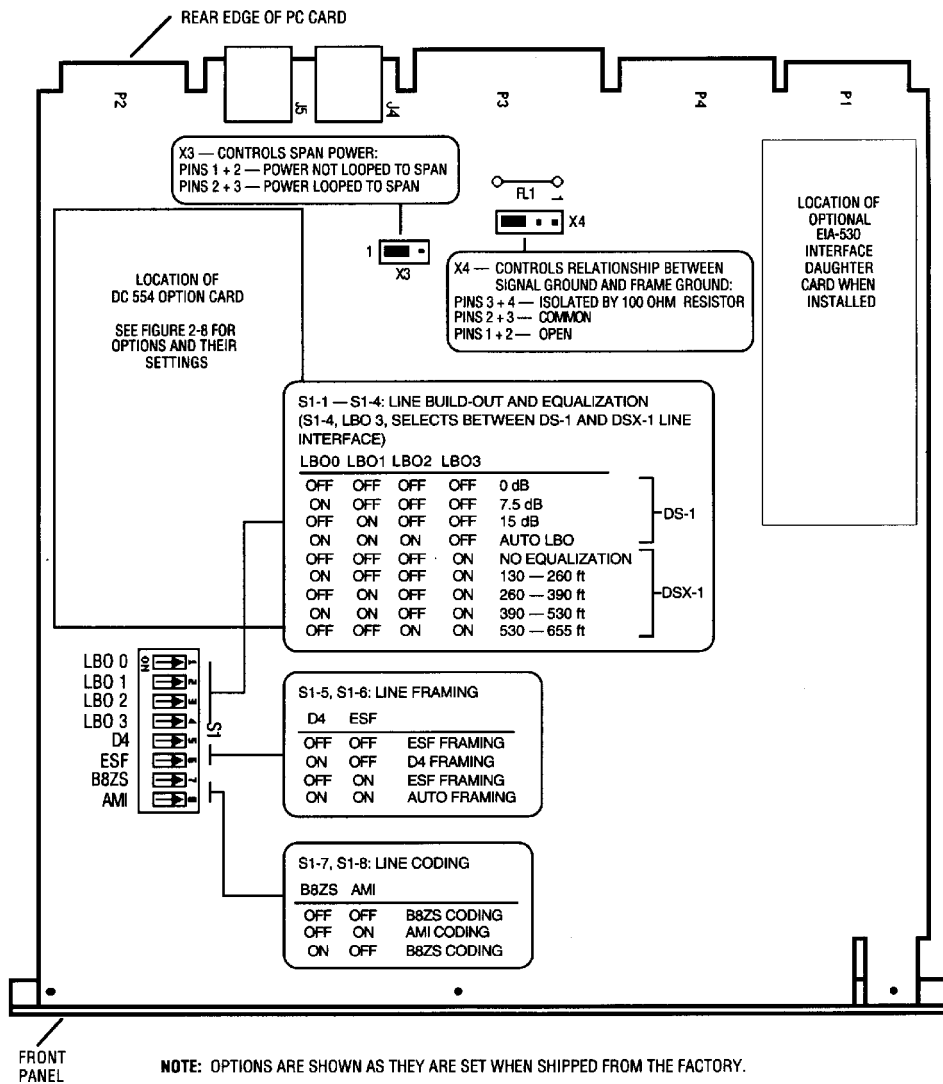

Figure 2-7 DC 554 Base Card Layout and Switch Settings
- Figure 2-7 illustrates the layout of the DC 554 base card and the location of its option switchbanks.
Refer to Figure 2-7 and to Table 2-1 for the location and description of base card switch settings.